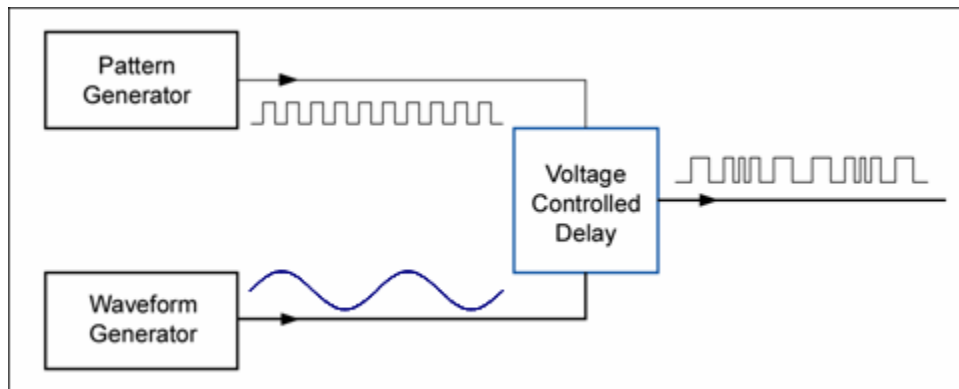

Figure 2: Voltage-controlled delay.
The voltage-controlled delay just to the right of the pattern generator allows us to apply jitter to the signal. As its name implies, a voltage applied to the voltage-controlled delay causes a delay in the signal that is proportional to the applied voltage. For example, Figure 2, if we set the arbitrary waveform generator at the bottom left of the diagram to transmit a sine wave, then the output signal has Periodic Jitter (PJ) at the frequency of the sine wave and peak-to-peak jitter proportional to the voltage of the sine wave.